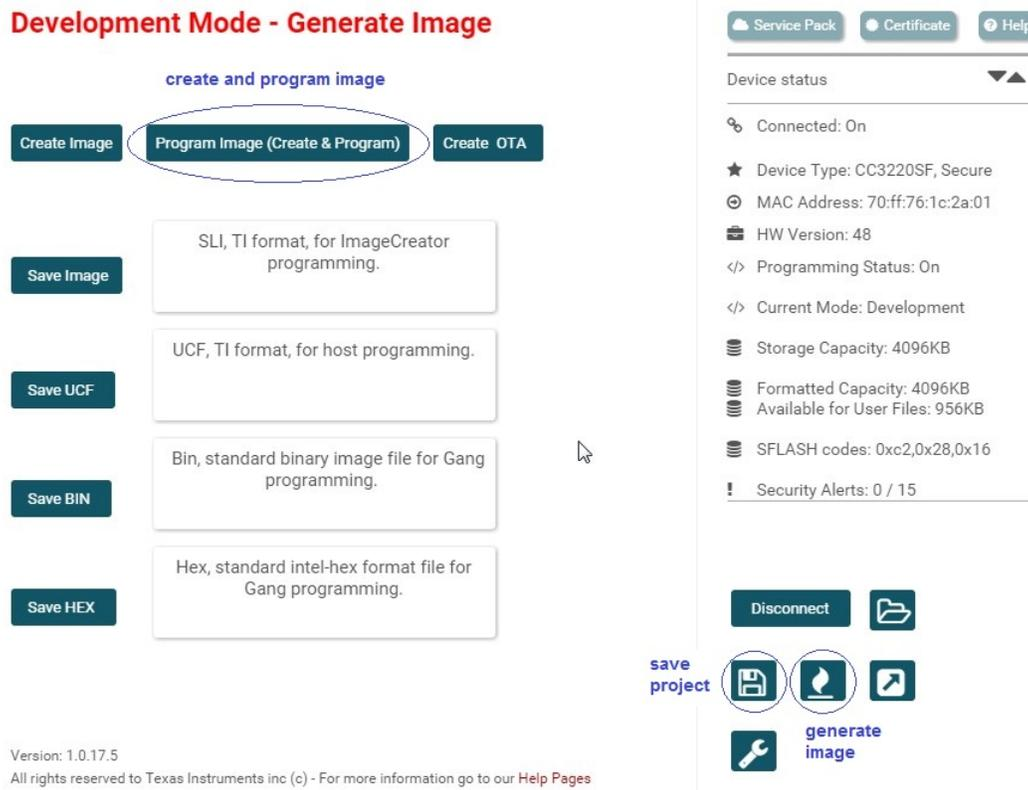

Figure 13. Program Image and Generate Image
- Save the project and click on the Generate Image icon (see Figure 13).
- Click the Program Image button (see Figure 13). The image is now programmed to the device.